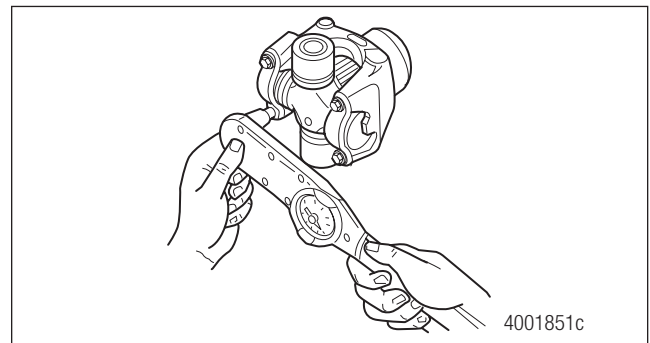

Figure 9.21
4. Use a torque wrench to alternately tighten the capscrews to Meritor’s driveline torque specification. Figure 9.21.